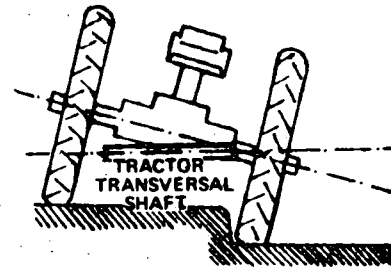

Fig. 3
- b) Adjust the plough crosswise keeping it parallel to the ground (Fig. 3).